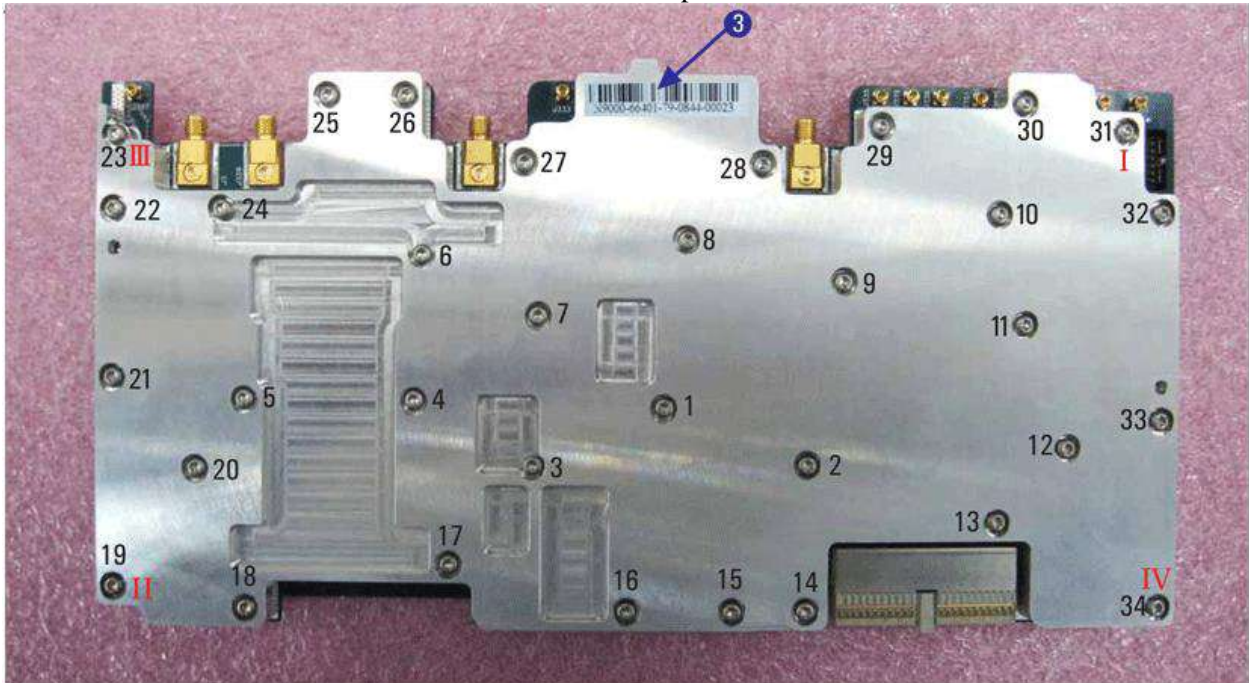

Figure 1 Screws on top shield of RF Assembly
8. Refer to figure 1, secure 4 corner of the RF board with screws following the sequence. Torque screws hand tight.